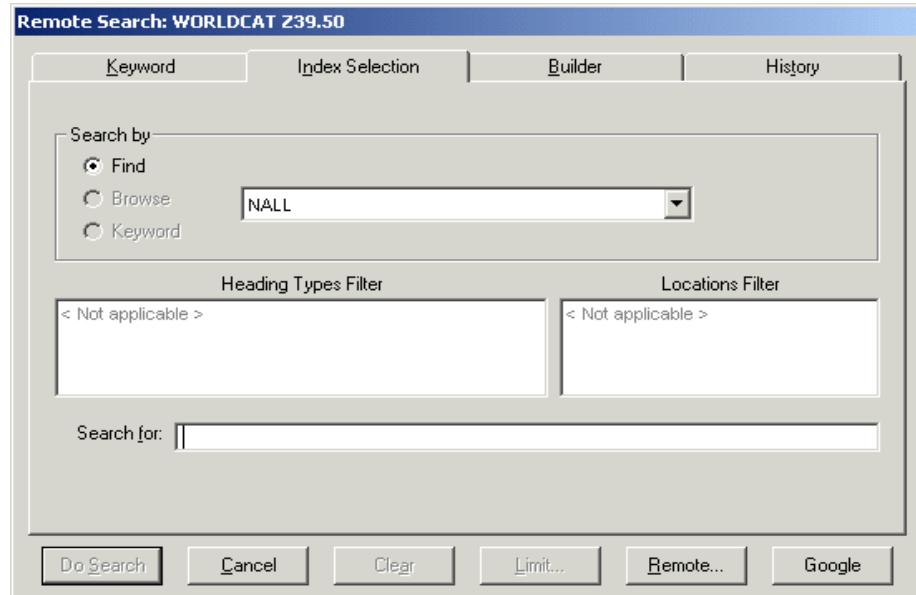

Figure 2-40. Remote Search dialog box, Search by options
- If you are connecting to one database, the **Remote Search** dialog box opens (see Figure 2-40) with the name of the database displayed in the title bar. If available from the remote server, the same search types are available as those in the regular local search display.